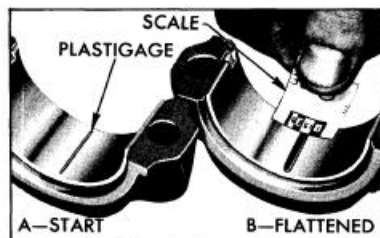

Figure 2-26—Checking Bearing Clearance with Plastigage
2. Place a piece of Plastigage lengthwise along the bottom center of the lower bearing shell (Figure 2-26, view A), then install cap with shell and tighten bolt nuts to 40-45 ft lbs. torque.
flattened Plastigage at its widest point. The number within the graduation which most closely corresponds to the width of Plastigage indicates the bearing clearance in thousandths of an inch. See Figure 2-26.